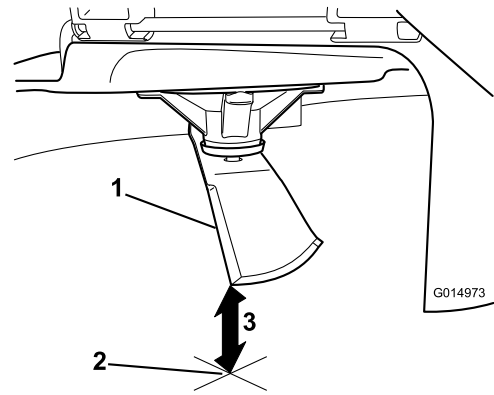

Figure 47
8. After adjustment, check the front-to-rear slope again. Continue adjusting the nut until the front blade tip is 1/16-5/16 inch (1.6-7.9 mm) lower than the rear blade tip (Figure 47).